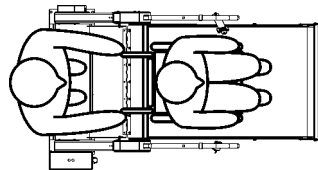

FIG. 29 TYPICAL ATTENDANT POSITIONING OCCUPANT ON PLATFORM
8. Roll wheelchair (or guide standing occupant) out to middle of PLATFORM (**FIG. 29**). LOCK WHEELCHAIR BRAKES.